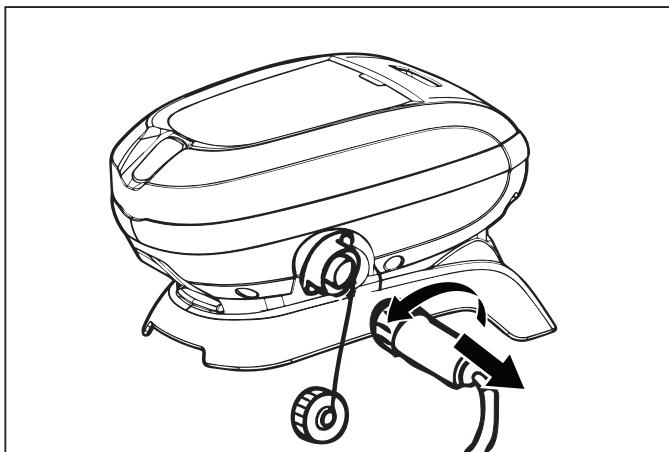

Figure 18. Unplug the Floating Cable
3. Unplug power to the cleaner at the control unit (Figure 18).